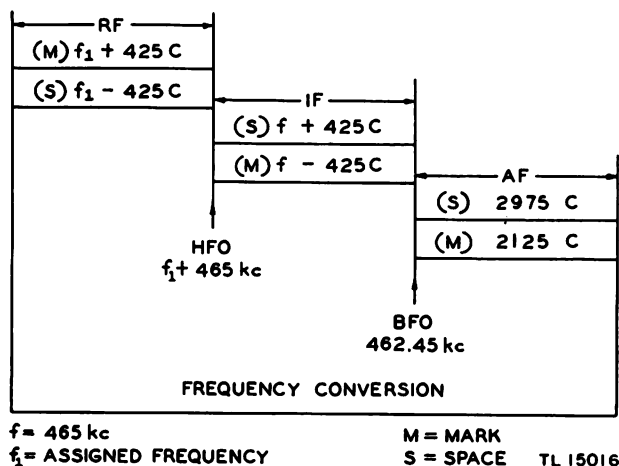

Figure 17. Frequency conversion.
e. RADIO TELETYPE FREQUENCY CONVERSION SYSTEM. See figure 17.
(1) If, for example, the assigned carrier frequency were 12,000 kc, the transmitter would be adjusted to provide the following mark and space frequencies: